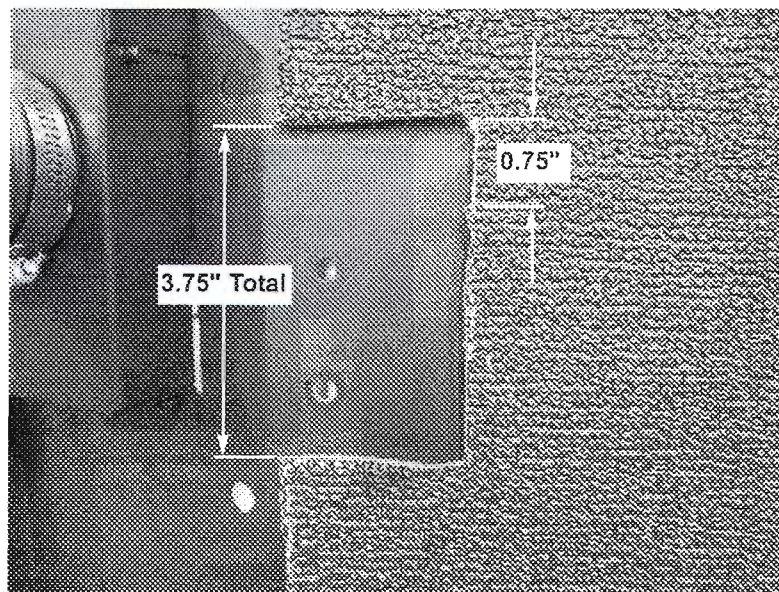

FIGURE 5
8. At the accelerator mounting location inside the cowl, trim an additional 3/4 of an inch up away from the sound abatement. This will insure solid mounting of the taller pedal mounting plate. **Figure 5**